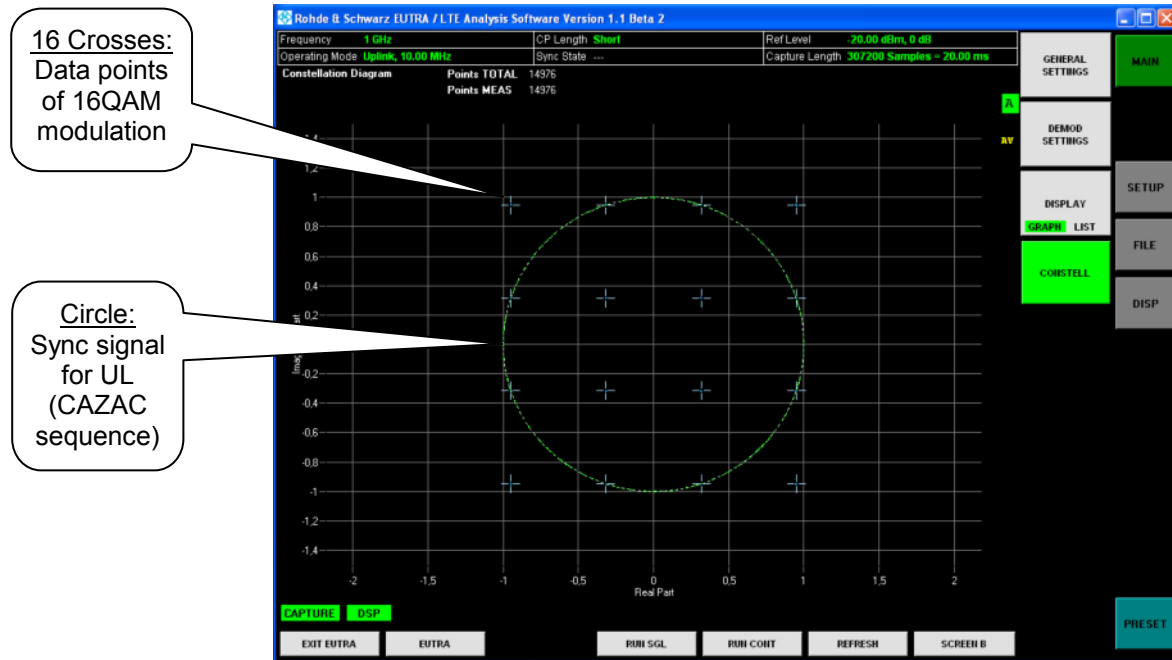

Figure 5-15 Analyzing EUTRA/LTE UL signals – Constellation Diagram
8. Constellation Diagram (Figure 5-15)
- Neither data nor pilot information is decoded correct (compare with Figure 5-15 - same input signal but correct CAZAC parameters)